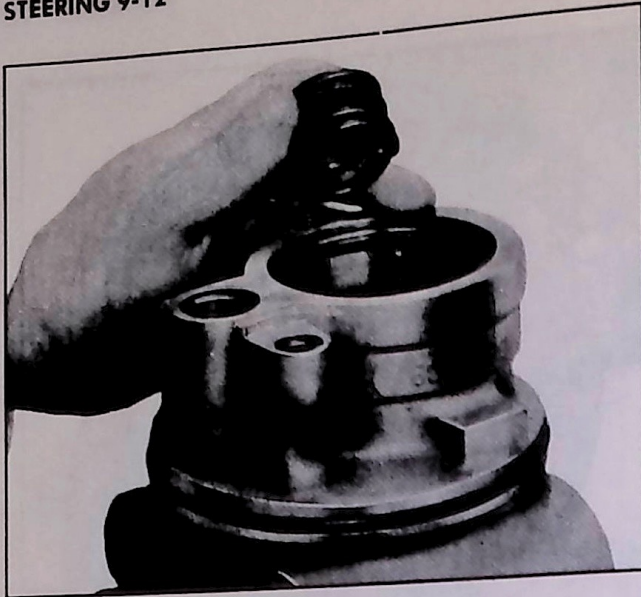

Fig. 28—Installing Pressure Plate Spring
10. Install the pressure plate spring in the center groove of the pressure plate (fig. 28).